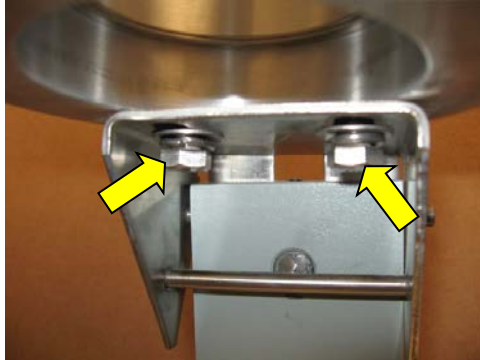

Figure 7-2 Heating jacket bolts
1. Attach the heating jacket to the pivot slide block assembly. Use two 3/8-24 hex head cap screws inserted through the slide block and into the heating jacket bottom. See Figure 7-2.